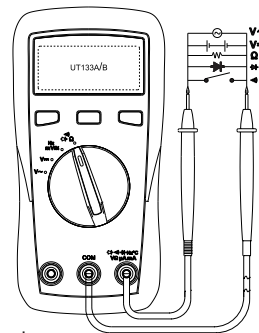

Figure 2
1. AC/DC voltage measurement (see Figure 2)
3.Continuity measurement (see figure 2)
4.Diode measurement (see figure 2)